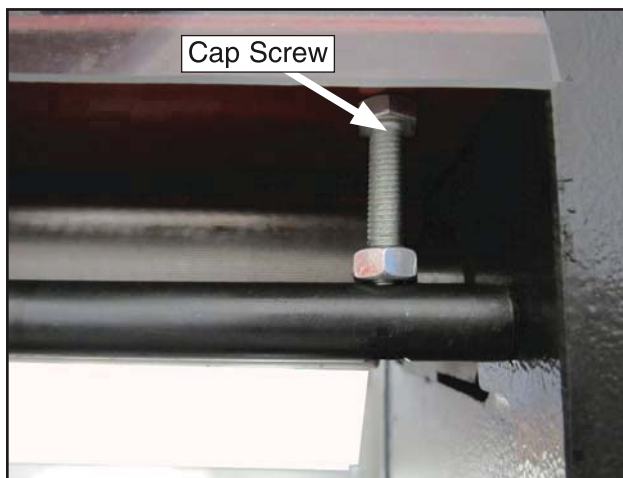

Figure 57. Chipbreaker mounting to headstock casting (right side shown.)
- a. Remove the cap screws on each end of the chipbreaker (see **Figure 57**).